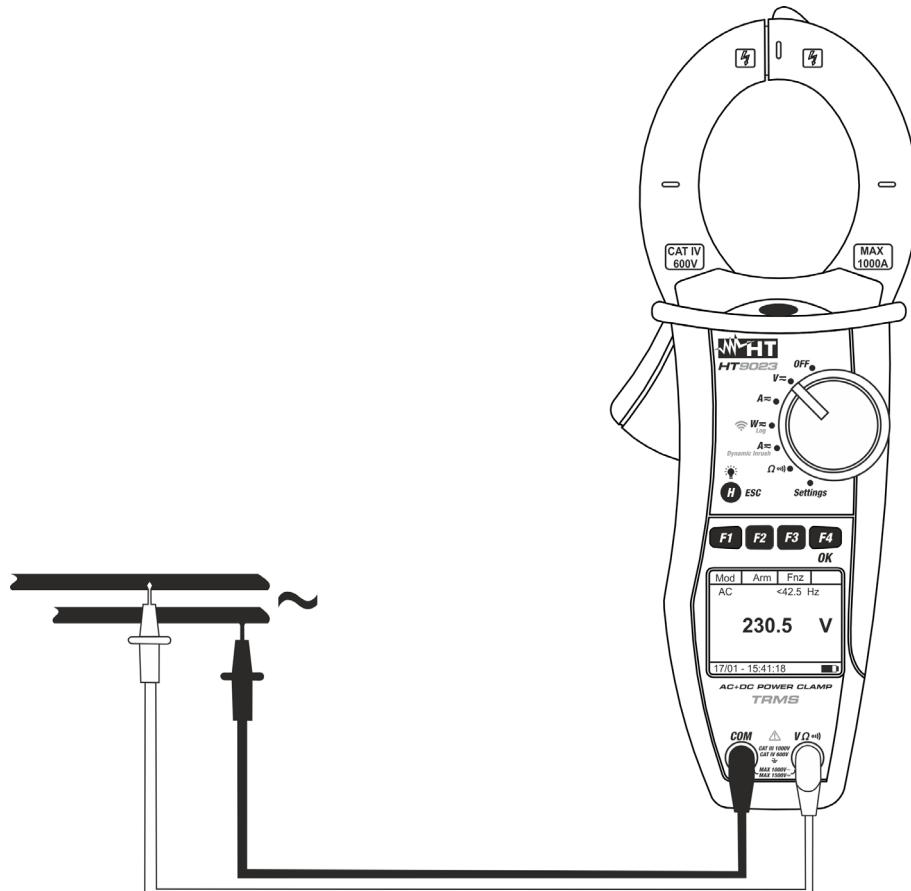

Fig. 6: AC and AC + DC voltage measurement
4. Connect red cable to input lead **VΩ** and black cable to input lead **COM** then position the leads to the desired points of the circuit under test (see Fig. 6)